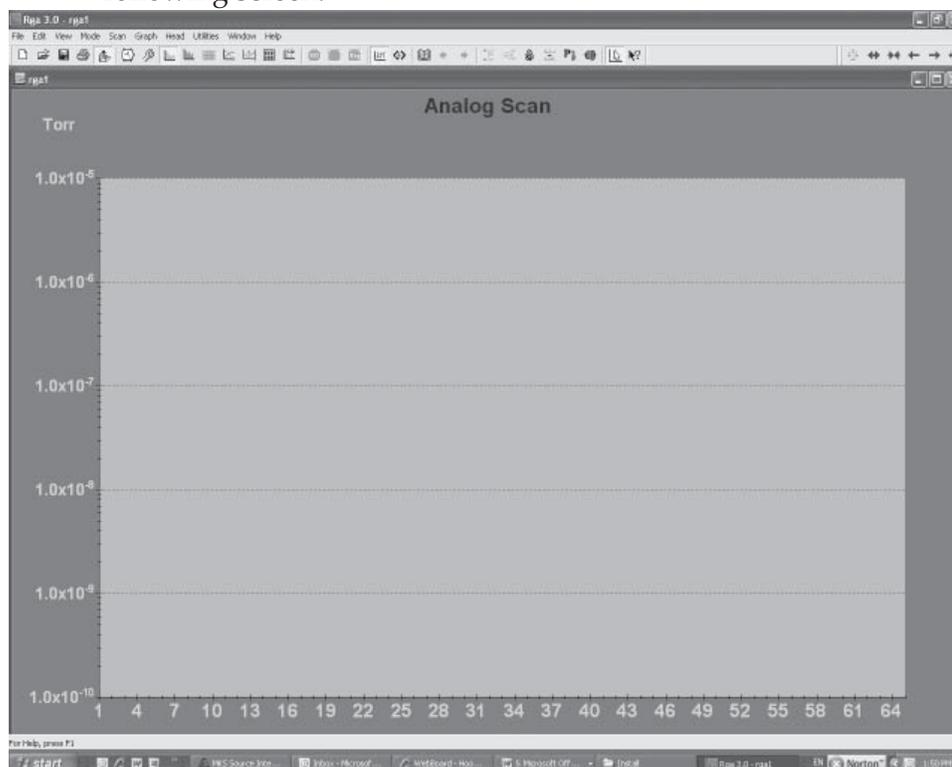

Fig. 2-25. Screenshot of RGA software.
- Click 'Launch RGA'. You should see the same screen as Fig. 2-25.